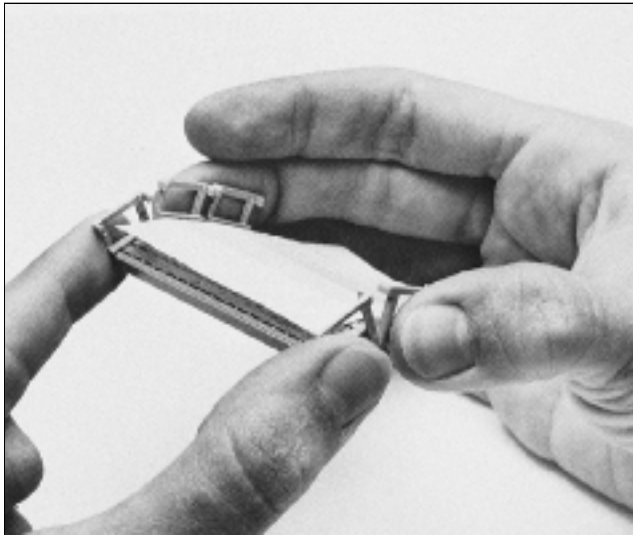

Figure 5
1. Grasp a D Sub cover strip between thumb and forefinger of both hands, with the liner facing you. Rotate the outermost cover down against the adjacent cover on the strip, breaking it from the liner. Pull laterally away from the strip. Adhesive should be present on cover. (See Figure 5)